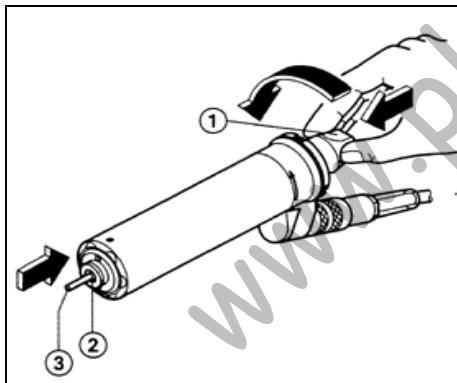

Figure 11.2
As shown in Fig. 11.2, insert the cutter ③ until it is up against the base of the clamp ②. Press the knob on top of the motor ① then rotate in the direction indicated by ⇐ until the clamp ② securely grips the cutter ③.